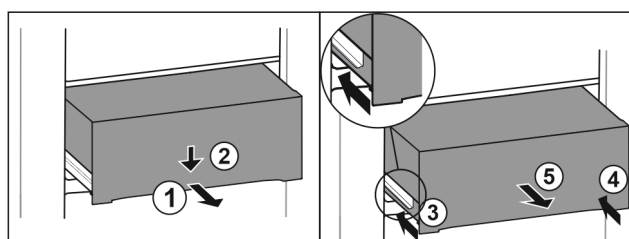

Fig. 109
- Pull out drawer half-way. Fig. 109 (1)
- Push the drawer down at the front. Fig. 109 (2)
- Push the left rail in by about 2 cm. Fig. 109 (3)
- Push the right rail in by about 2 cm. Fig. 109 (4)
- Remove drawer to the front. Fig. 109 (5)